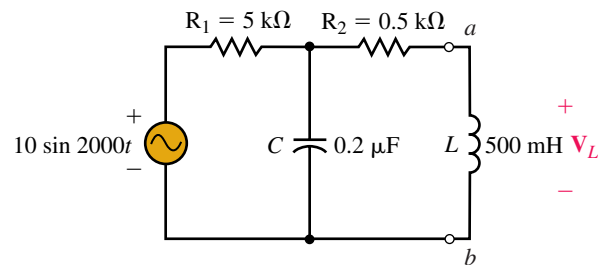

FIGURE 20–24
- Find the Thévenin equivalent circuit external to the inductor in the circuit in Figure 20–24. (Notice that the voltage source is shown as sinusoidal.)